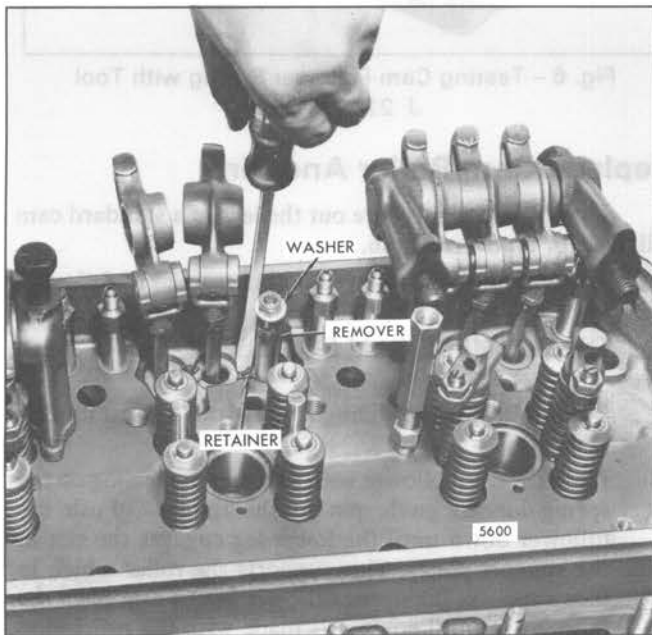

Fig. 3 – Removing Push Rod from Upper Side of Cylinder Head using Tool J 3092-01
5. Remove the spring seat retainer from the groove in the cylinder head (Fig. 3).